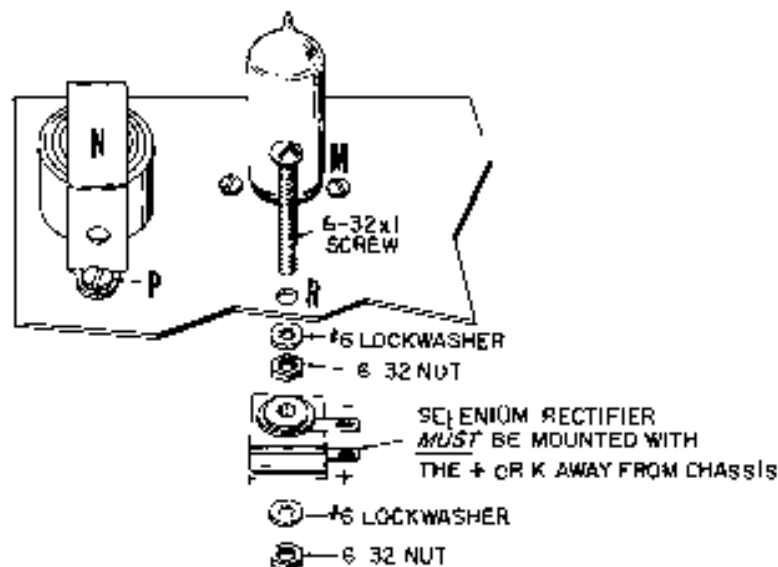

FIGURE 13
- ( ) 94. Connect the center lead of the dual .01 mfd (10,000 mmfd) ceramic disc capacitor to the point U2 (Solder). Connect one side lead to U1 (Don't Solder) and the other side lead to L3 (Don't Solder). See Figure 13. Keep the leads as short as possible.